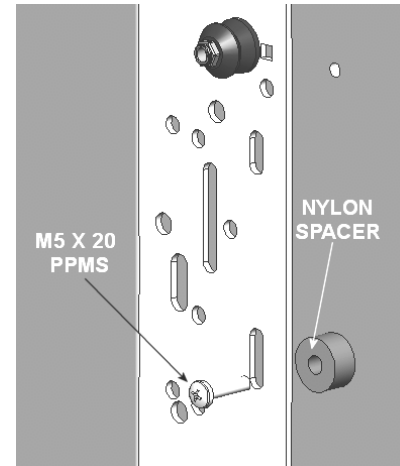
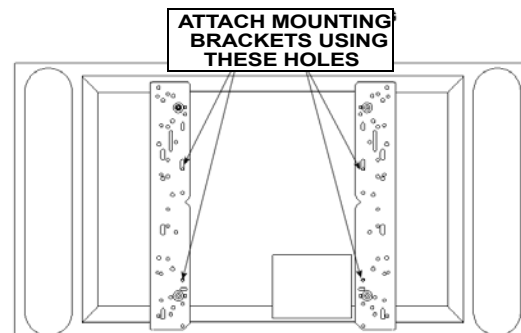

Figure 30. Spacer Installation for Group 10
Figure 31. Bracket Attachment for Group 10
3. Place the four Nylon spacers over the mounting holes on your Large Flat Panel display (see Figure 30).
4. Place the interface brackets over the Nylon spacers (see Figure 30 and Figure 31).
6. Using the hardware in parts bag F, secure the interface brackets to your Large Flat Panel display (see Figure 30 and Figure 31). Do not overtighten the mounting screws.